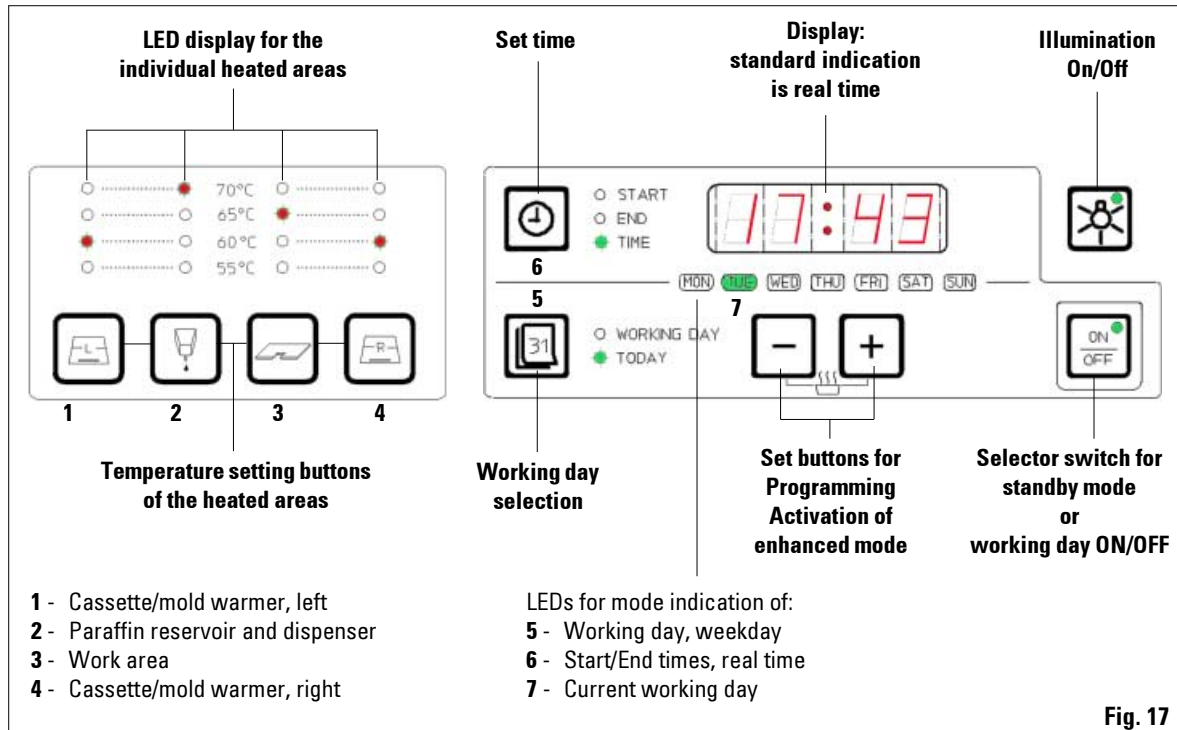

Fig. 17
- The heaters become active and the LEDs indicate the values last set. The LED's which indicate the set temperatures of the heated areas (**1, 3** and **4**, fig. 17) will flash from time to time over the entire length of the heating phase (compare "Indication of the heating intervals"). The LED of the paraffin reservoir (**2**, fig. 17) flashes in time intervals of 1 second each while the intensified heating of the paraffin reservoir is active (4 hours).